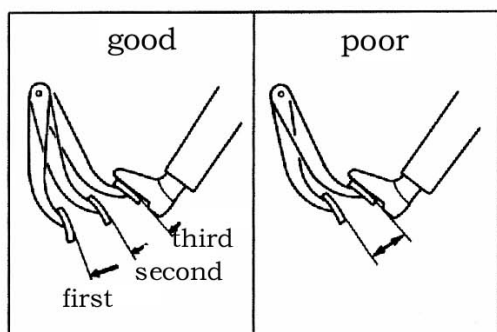

Fig. 16-6
- (1) Inspection model without test (see Fig. 16-6~16-8)
- ① Simple checking of the brake booster operation ,carry out as the following test:
- ② The booster performance can be determined as good if all three tests are okay. If one of the above three test is not okay, the check valve, vacuum hose, or booster may be defective.
- (2) Inspection with simple test method
- ① Before inspection ,check valve operation.
- ② Remove the vacuum hose from the booster .Connect the vacuummeter with the booster, connect the vacuummeter and the booster with the vacuum hose without the valve, connection